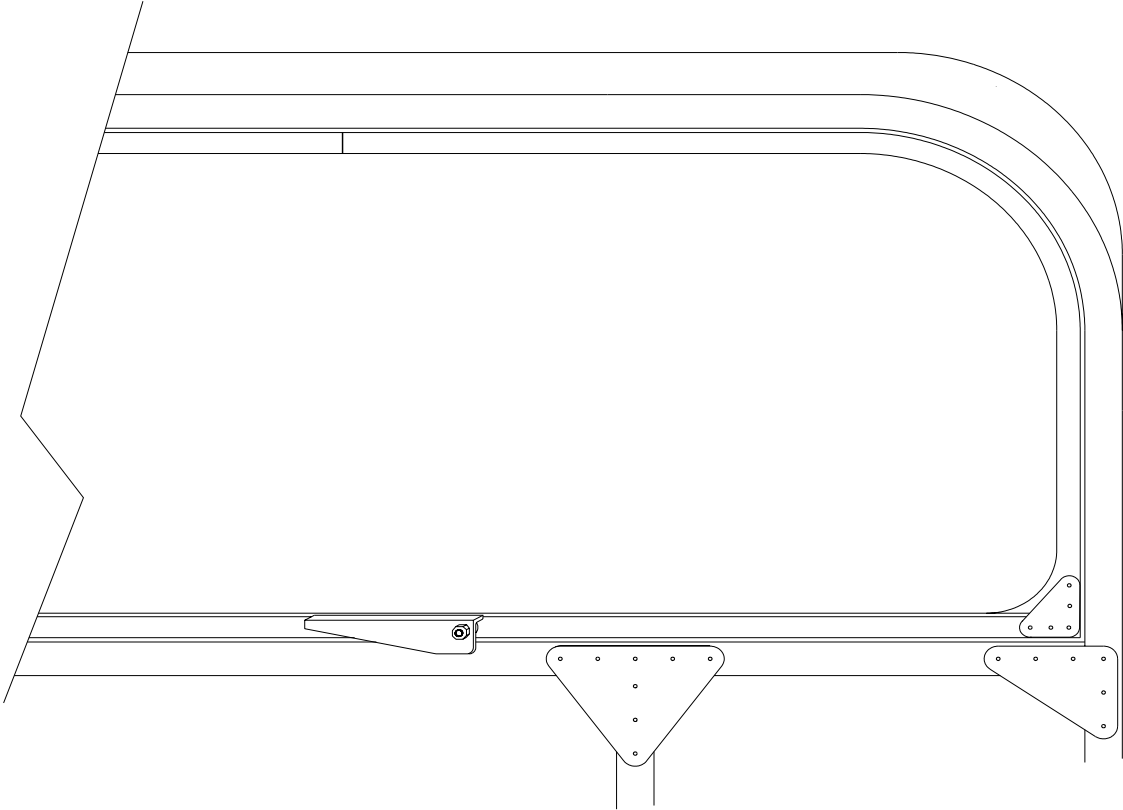

Figure 17.5.8
- 15) Drill a #11 hole in the center of the WI-02 tube through the door assembly. You may want to locate the hole slightly closer to the front of the window frame assembly. Then using an AN525-1032R15 screw, attach the handle to the window frame using the bushing you made to separate the handle from the window frame. Tighten the handle assembly lightly with an AN364-310 nut with a AN960-10 washer under the nut. Figure 17.5.8